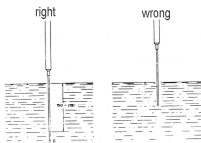

Fig. 7
- * For an accurate reading of T2, with liquid temperature probe (see Fig. 7)